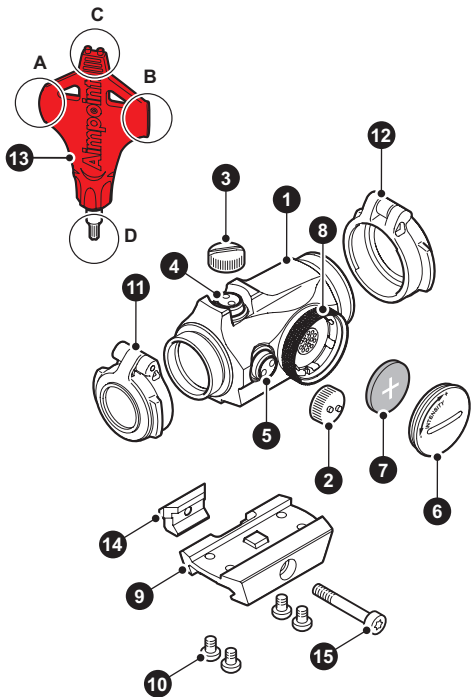

Fig. 3  1.2
See Fig. 3
- a Remove battery cap (6) using the tool (13A).
- b Insert battery (7) with the positive end (+) toward battery cap (6) as can be seen in Fig 3.